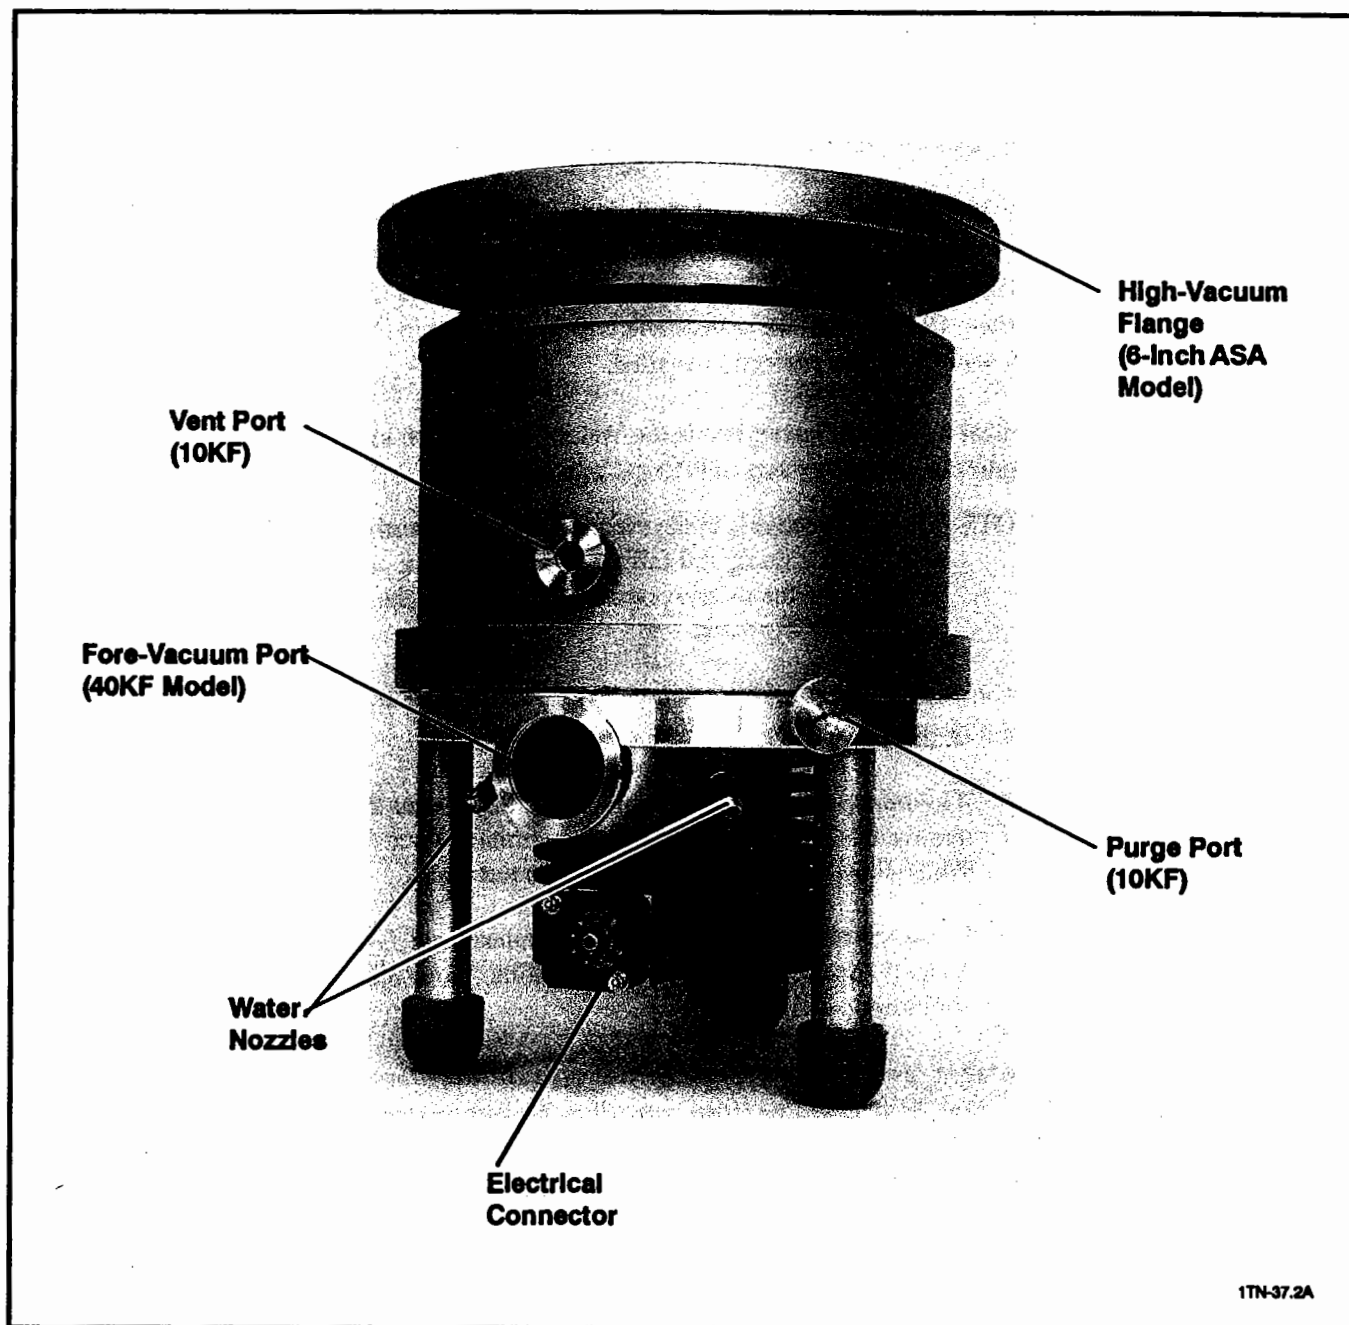

Figure 2-5. TMP1000 Turbopump
The turbopump is normally water cooled using a clean source of tap water connected to its water nozzles (see Figure 2-5). Installation instructions for water cooling are given in Section 2.3.4.1.
Connect a source of clean tap water to one of the turbopump's water nozzles; it doesn't matter which one is used (see Figure 2-5). The minimum cooling water consumption is about 30 l/hr (8 gal/hr). The tap water temperature should be about 60°F (15°C). The higher the cooling-water temperature, the higher the required cooling-water flow. The maximum water pressure is 80 psig. Use 7/16 inch (11 mm) ID hose to make the water connection. Connect a second hose from the nearest water drain to the turbopump's other water nozzle. Use hose clamps to secure both hoses to the water nozzles.
There are two 10KF ports on the turbopump. The upper 10KF port on the pump housing is the vent port; the lower 10KF port on the base housing is the purge port (see Figure 2-5).
1. Ensure that the purge port is sealed with its blank flange (see Figure 2-5).
3. Use the 10KF centering ring and clamp ring to connect the vent valve to the turbopump's vent port (see Figure 2-5).
Install the optional Purge/Vent valve as follows (see Figures 2-5):
1. Ensure that the vent port is sealed with its blank flange (see Figure 2-5).